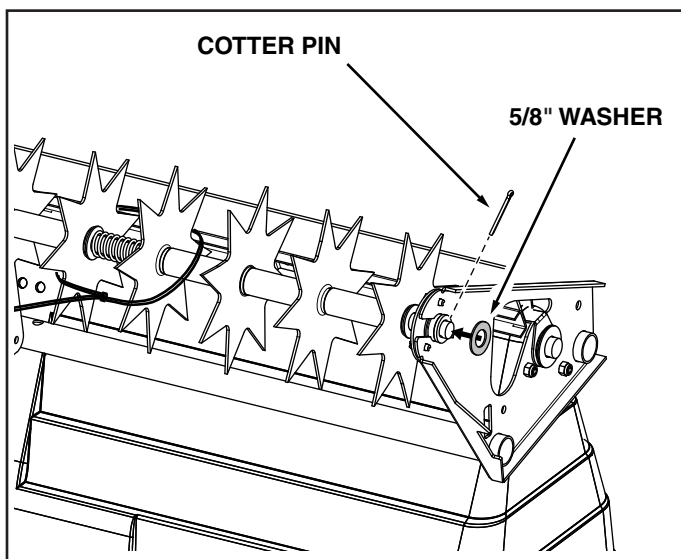

FIGURE 14
18. Slide the axle on through the end of the spreader frame. You may need to straighten the spike disks that are strapped together to allow the axle to slide freely. See figure 14.
19. Assemble a 5/8" washer onto the end of the axle. See figure 14.
20. Assemble a cotter pin into the end of the axle and then spread the ends of the cotter pin. See figure 14.